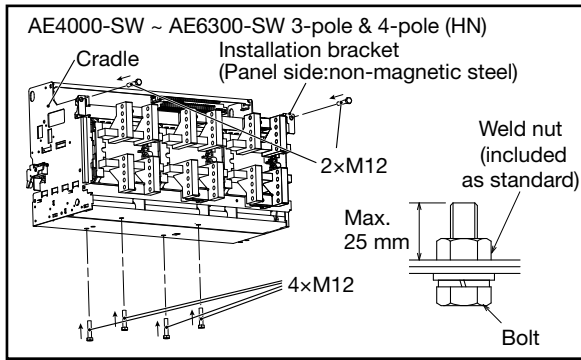
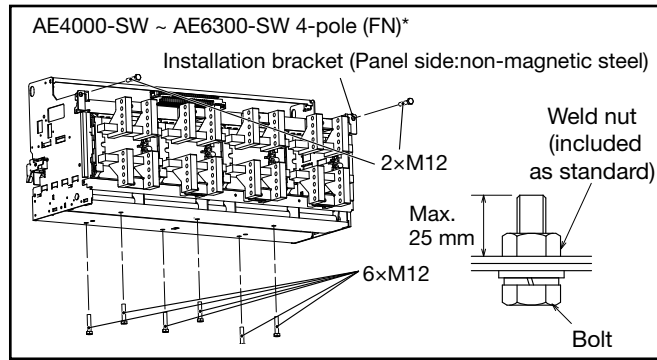

Fig. 8-3
Fig. 8-4
For AE4000-SW ~ AE6300-SW 3-pole and 4-pole (HN) products, insert four M12 bolts from the bottom and two from the back and attach the cradle as shown in Fig. 8-3. For the 4-pole (FN)* products, insert six M12 bolts from the bottom and two from the back and attach the cradle as shown in Fig. 8-4.